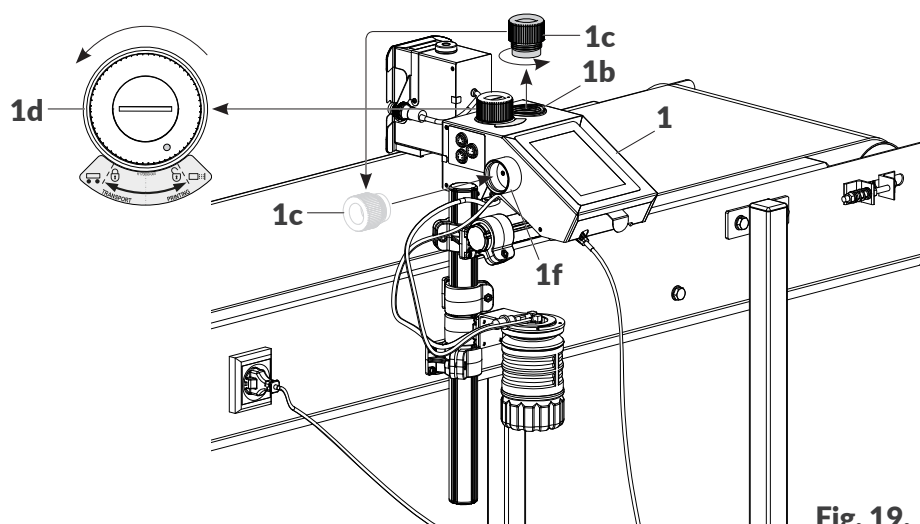

Fig. 19.
18. Set ink system valve **1d** (see Fig. 19 on page 28) at the **PRINTING** position.